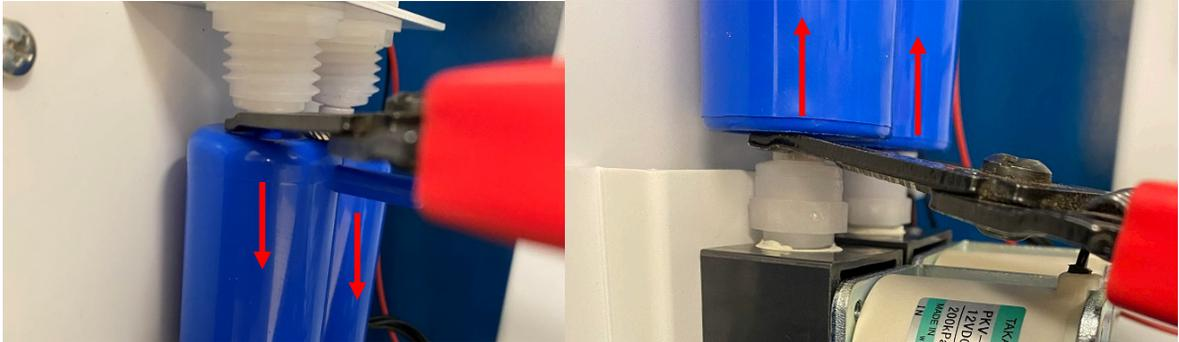

Figure 5.5: Removing Coalescing Filter
- Using needle-nose pliers or a screwdriver, push up on white ring on the bulkhead fitting while pulling down on the filters (figure 5.5). Move from one filter to the next until they all completely release from the white fittings.
- Using needle-nose pliers or a screwdriver, push down on the white ring on the drain valve fitting while pulling the filter up to remove each one by one (figure 5.5).